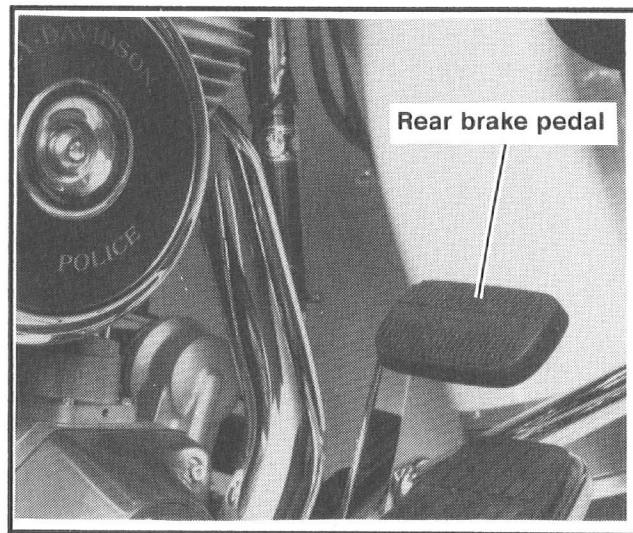
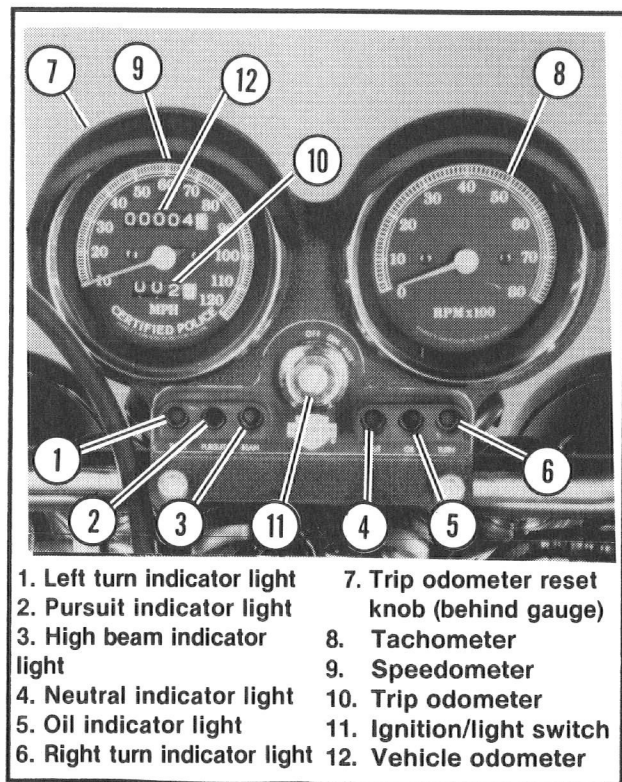

Figure 6. Rear Brake Pedal - FLHTP
Figure 9, Indicator Light and Gauges - FXRP (Fairing)
See Figures 6, 7. The brake pedal controls the rear wheel brake and is located on the right side where it is operated by the right foot. See Figure 9. The brake hand lever (10)